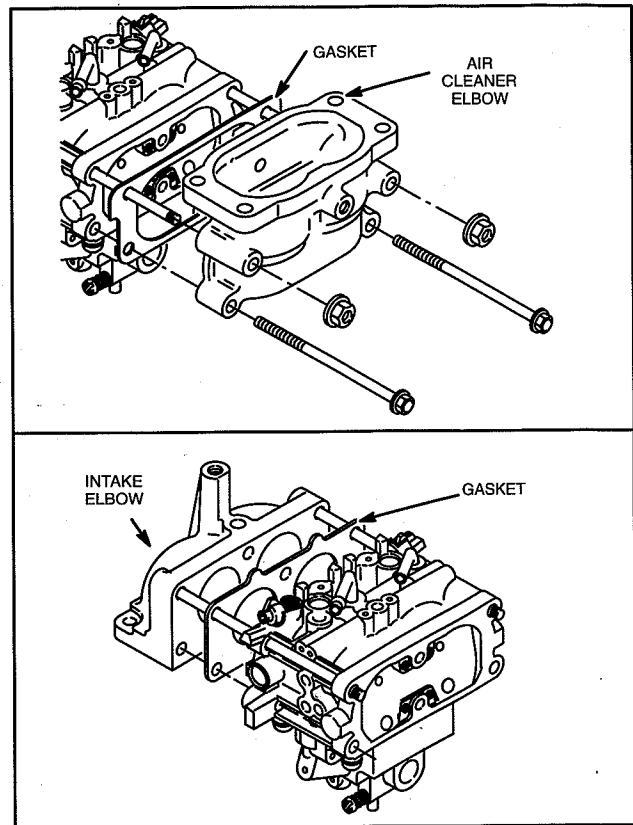

Fig. 78 – Remove Air Cleaner Elbow
11. Remove two nuts and two screws and separate air cleaner elbow and intake elbow from carburetor, Fig. 78.